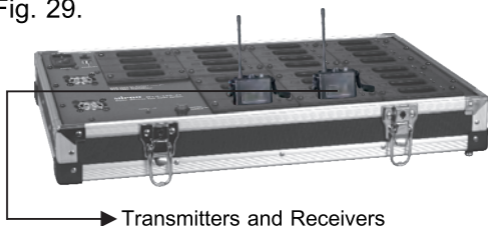

Fig. 29
2. MTG-100C-28 Bottom Case for Transmitters and Receivers Storage, Fig. 29.